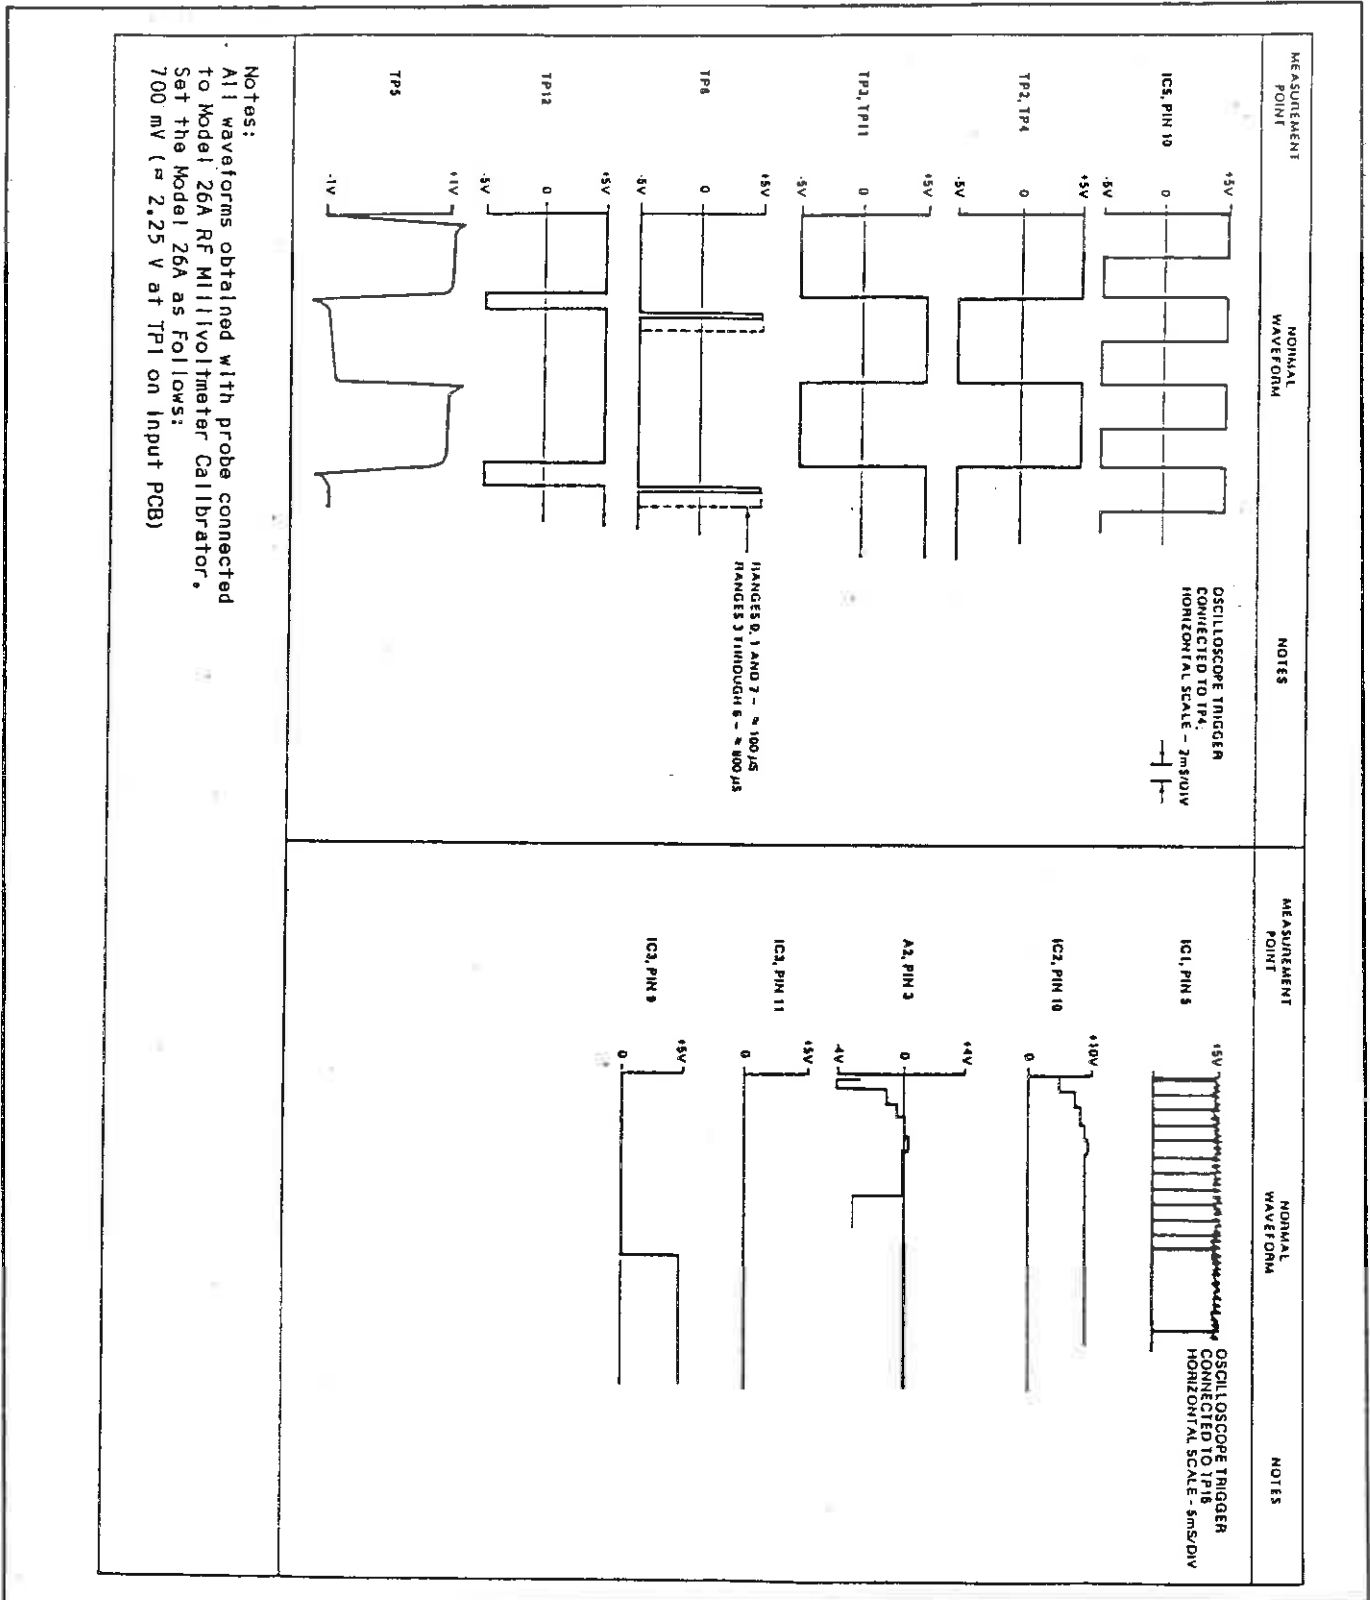

Figure 5-7. Input PC Board, Voltage and Waveform Data
2. **Input Module.** With a 700 mV signal applied to the probe, compare waveforms and voltages with those shown in Figure 5-7. Correct indications will essentially eliminate the input module as the source of an instrument malfunction; however, incorrect indications will not necessarily localize the problem to the input module because the input module depends on proper operation of the control module for such functions as ranging, analog-to digital conversion and recorder and meter output. If incorrect indications are obtained, localization of the problem using an oscilloscope and digital voltmeter may be a long and tedious process; a simpler approach may be to proceed with signature analysis.